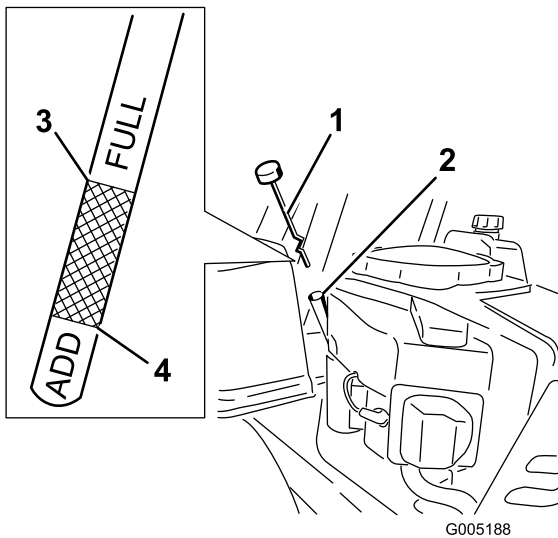

Figure 26
4. Unscrew and remove the dipstick; wipe oil off (Figure 26). Reinsert the dipstick into the tube and
5. Pull the dipstick out and check the oil level. (Figure 26).
8. Remove the oil fill cap/dipstick (Figure 26).
14. Slowly pour approximately 80% of the specified oil into the filler tube (Figure 26).
15. Install the oil fill cap/dipstick (Figure 26).
16. Check the oil level (Figure 26); refer to Checking the Oil Level.
18. Install the oil fill cap/dipstick and screw tight (Figure 26).